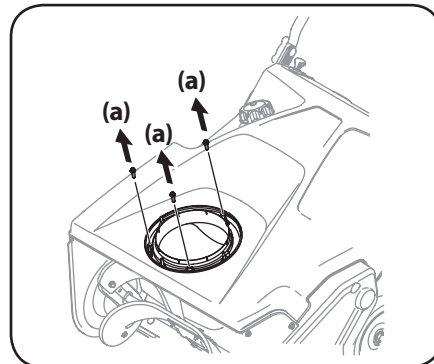

Figure 2-7
- Remove the hex washer screws (a) in the chute base. See Figure 2-7.